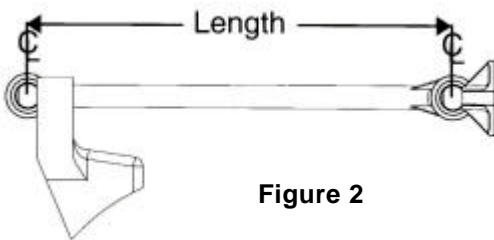

Figure 2
- ? If the old torque rod is not an Ultra Rod it is important to verify how the torque rod is mounted, and then measure as shown in Figures 2, 3 and 4.